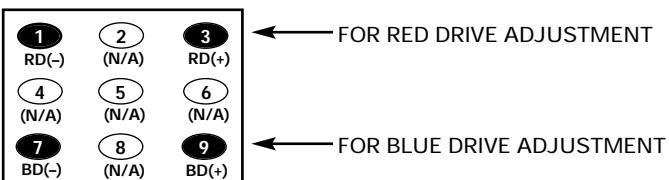

Figure 6. Remote Control Number keys' functions in Service Menu NO. AA DRV
12. Adjust Red and Blue Drive Levels alternately with 1, 3, 7, or 9 key to produce normal black and white picture in highlight areas. See Figure 6.